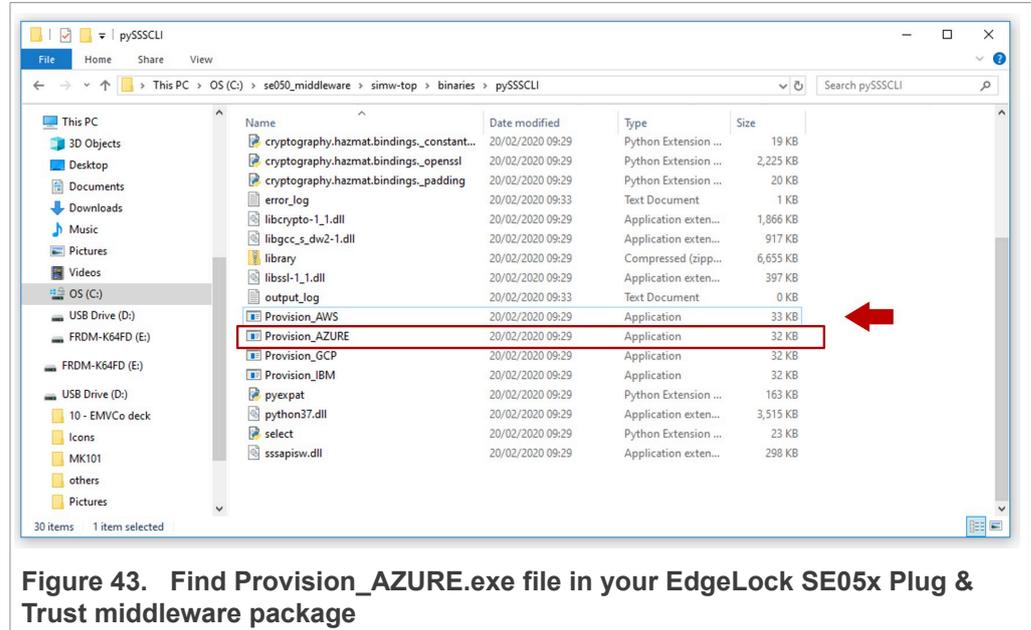

Figure 43. Find Provision_AZURE.exe file in your EdgeLock SE05x Plug & Trust middleware package
- Go to `simw-top\binaries\pySSSCLI` folder and locate the `Provision_AZURE.exe` file as shown in Figure 43: